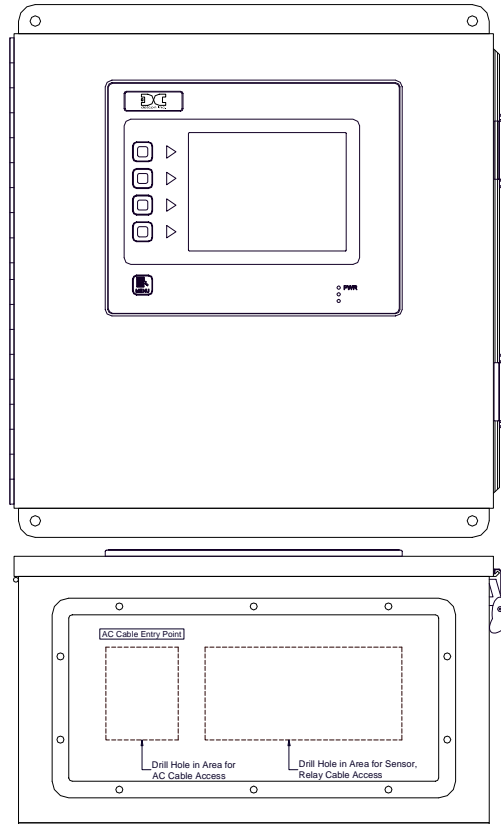

Figure 7 Cable Entry Points
NOTE The cable penetration for the AC power must be made in the bottom of the enclosure (See Figure 7). All penetrations must use conduit or a NEMA4 rated cable gland (Appleton p/n CG-2575 or equivalent) to prevent water ingress and restrict access to the internal circuits of the MCX-32.
NOTE The cable penetration for the DC power must be made in the bottom of the enclosure (See Figure 7). All penetrations must use conduit or a NEMA4 rated cable gland (Appleton p/n CG-2575 or equivalent) to prevent water ingress and restrict access to the internal circuits of the MCX-32.
- NOTE** All cable penetrations for analog sensor cables must be made in the bottom of the enclosure (See Figure 7). All penetrations must use conduit or a NEMA4 rated cable gland (Appleton p/n CG-2575 or equivalent) to prevent water ingress and restrict access to the internal circuits of the MCX-32.
NOTE	The cable penetrations for the dry contact inputs must be made in the bottom of the enclosure (See Figure 7). All penetrations must use a NEMA4 rated cable gland (Appleton p/n CG-2575 or equivalent) to prevent water ingress and restrict access to the internal circuits of the MCX-32.